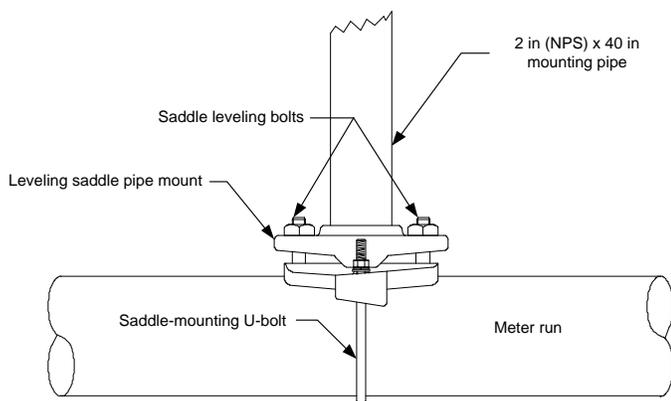

Figure 16: Typical pipe saddle installation
1. Position the pipe saddle on the meter run and temporarily attach the saddle to the meter run pipe using the associated hardware (Figure 16).